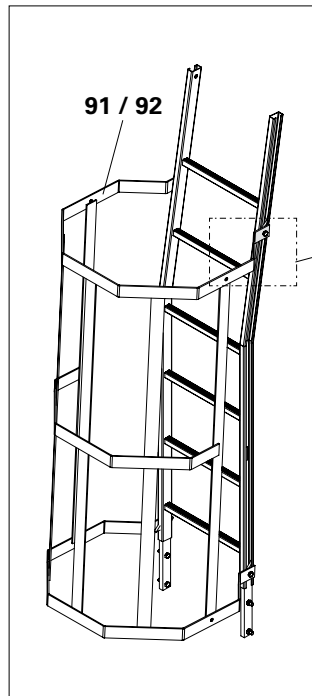

Fig. B5.13
- Bring and hold Ladder Safety Cage (91) in position using a rope.
- Slightly loosen bolts M12 x 25 (4x) on the clamping plate (91.1), position clamping plate on the ladder rail, turn and tighten bolts. (Fig. B5.13)